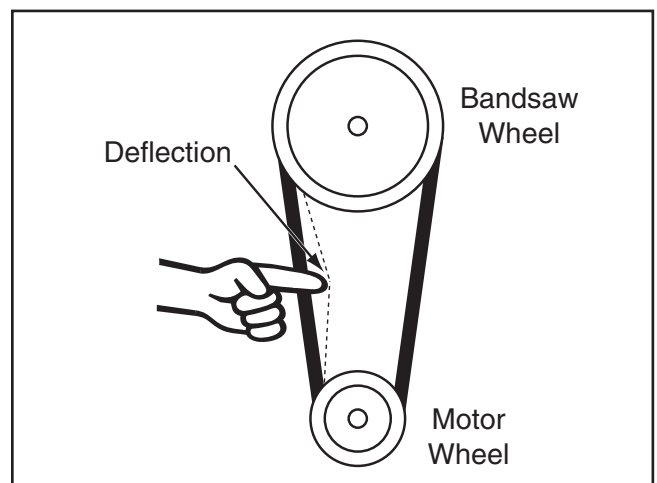

Figure 49. V-belt deflection.
6. Check the V-belt tension. When tensioned correctly, the V-belt can be deflected approximately $\frac{3}{4}$ " (see **Figure 49**).